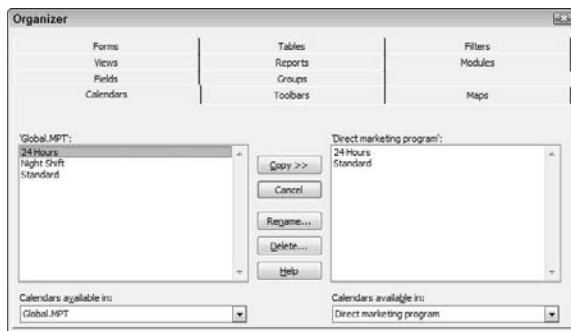

Figure 4-12:
3. Click the Calendars tab, as shown in Figure 4-12.